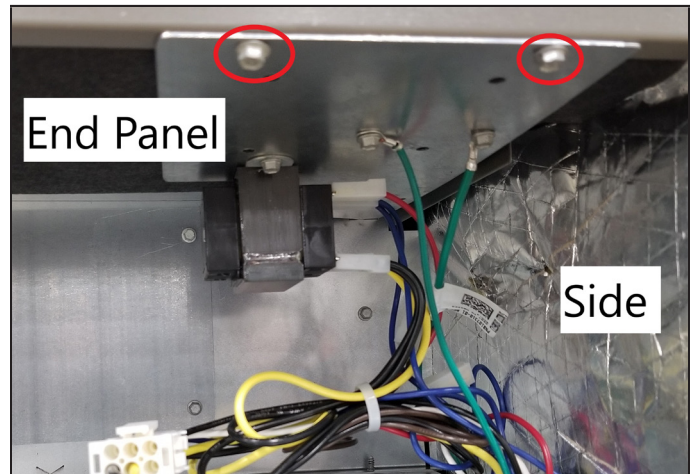
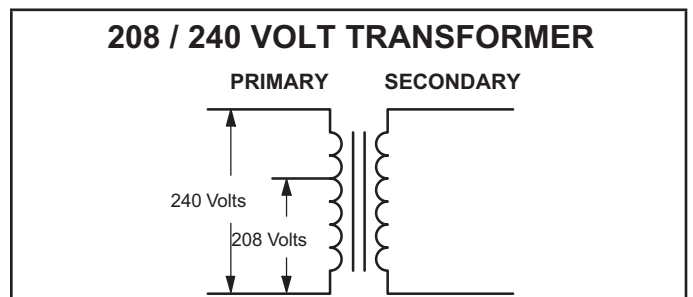

FIGURE 19. Control Panel Relocated to End Panel (Horizontal-Right Configuration)
FIGURE 20. Converting Unit from 240VAC to 208VAC
To avoid the possibility of moisture damage to the control in some right-hand discharge configurations, the control panel can be relocated to the end panel as shown in figure 19.
- 2 - Slide the control panel into the notch on the electric heat mounting panel (figure 19). Using the screws removed in Step 1, secure the control panel to the end panel, as shown in figure 20.